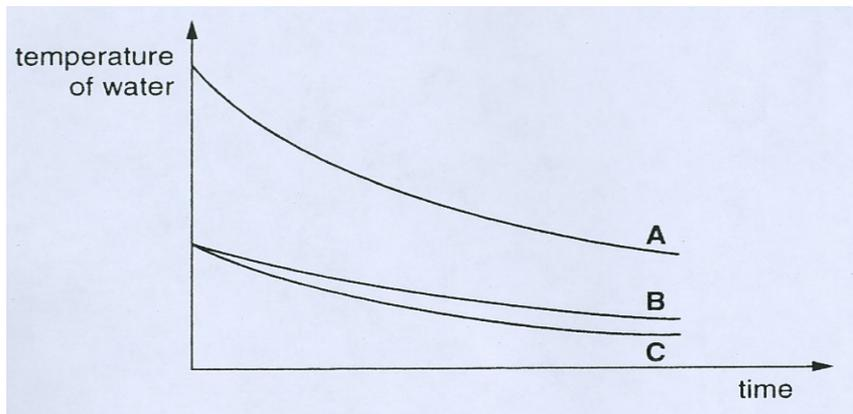

Fig. 1.2
- (c) Some of the students' results for insulating materials **A**, **B** and **C** are shown as a graph Fig. 1.2.
(c) Some of the students results for insulating materials **A**, **B** and **C** are shown as a graph Fig. 1.2.